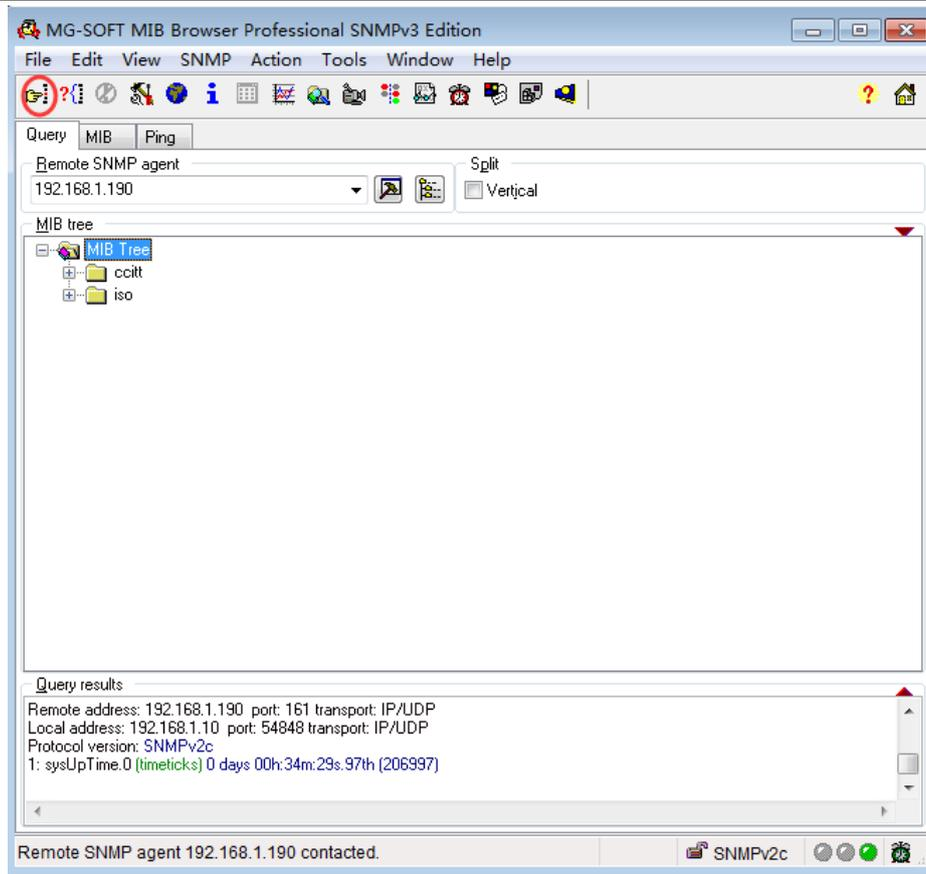

Figure 18. Contact MQ48D controller
- 4) MIB Browser contacts the selected SNMP agent and displays its response in the Query Results panel (Figure 18).